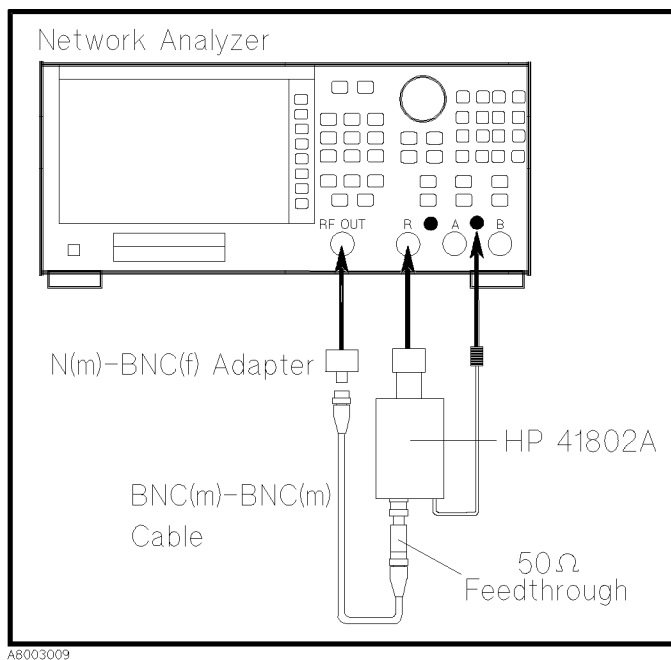

Figure 3-2. Operating Check Setup Using 8753A/B/C Network Analyzer
1. Connect the equipment as shown in Figure 3-2. Note that the probe power plug must be connected before connecting the 41802A's N-type connector.